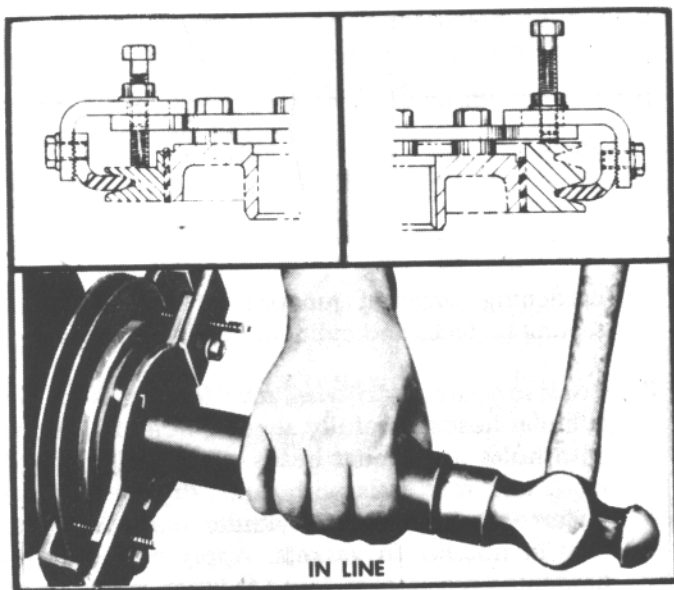

Fig. 123. Installing Torsional Damper (Drive on Type)
- (b) Attach damper installer tool J-22197 to damper. Tighten fingers of tool to prevent weight from moving (Fig. 123).
- (c) Position damper on crankshaft and drive into position using J-5590 until it bottoms against crankshaft sprocket or gear (Fig. 123).